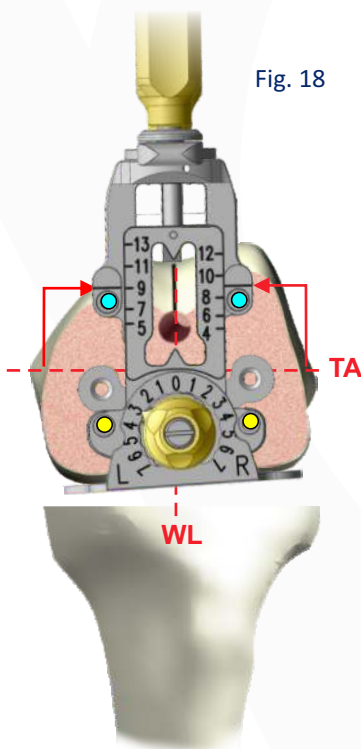

Fig. 18
During this phase has to be also verified the correspondence between the rotation degree determined with the Spacer and the alignment to the *Trans-epicondylar Axis* (TA) and the *Whiteside Line* (WL) (**Fig. 18**).